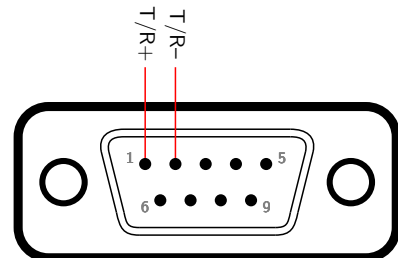
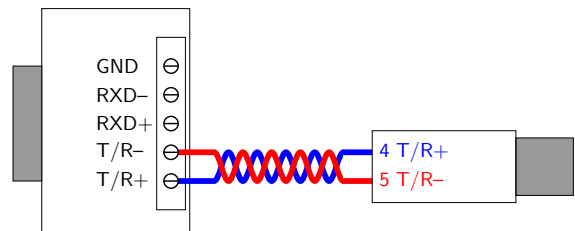

Figure 2.3: DB-9 female connector (solder side).²
Figure 2.4: DB-9 adaptor to DIN-6 wiring.²
1. Solder the pins on a female DB-9 connector as shown in Figure 2.3. Note that the pin numbers shown in the diagram are for the solder side of the connector. Alternatively, use a DB-9 adaptor with screw terminals, as shown in Figure 2.4.